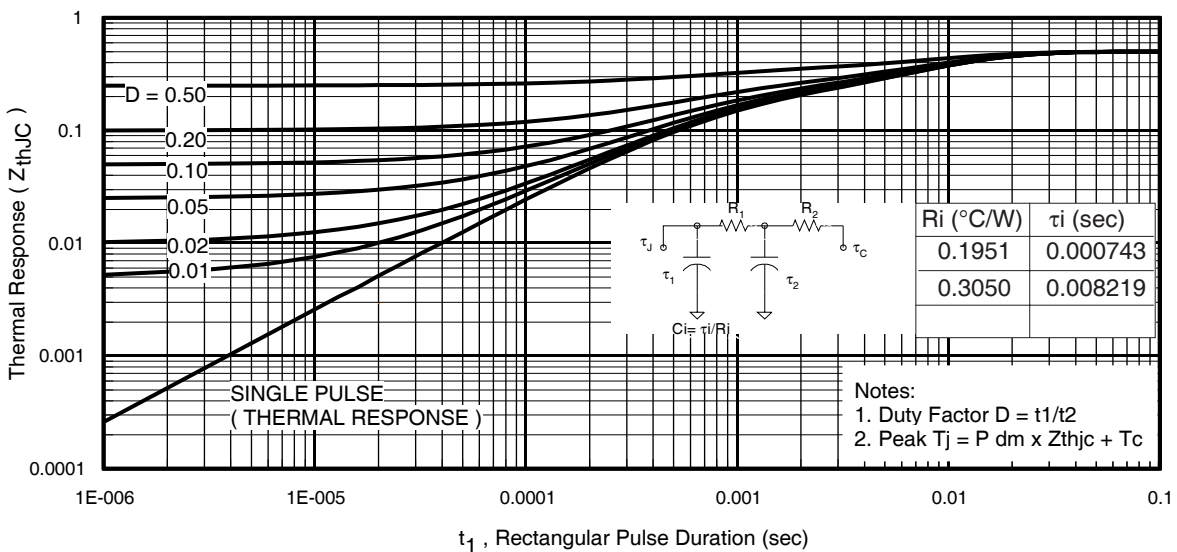
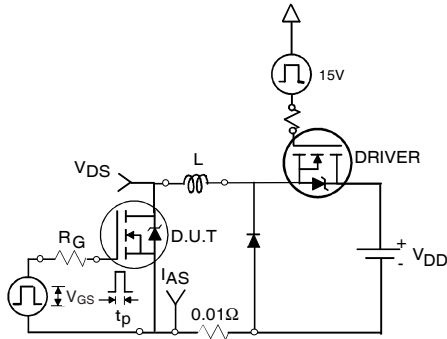

Fig 11. Maximum Effective Transient Thermal Impedance, Junction-to-Case
Fig 12a. Unclamped Inductive Test Circuit
- ① Repetitive rating; pulse width limited by max. junction temperature. (See fig. 11).
- ② Limited by T_{Jmax} , starting $T_J = 25^\circ\text{C}$, $L = 0.049\text{mH}$, $R_G = 25\Omega$, $I_{AS} = 160A$, $V_{GS} = 10V$. Part not recommended for use above this value.
- ③ Pulse width $\leq 1.0\text{ms}$; duty cycle $\leq 2\%$.
- ④ $C_{oss\text{ eff.}}$ is a fixed capacitance that gives the same charging time as C_{oss} while V_{DS} is rising from 0 to 80% V_{DSS} .
- ⑤ Limited by T_{Jmax} , see Fig.12a, 12b, 15, 16 for typical repetitive avalanche performance.
- ⑥ This value determined from sample failure population. 100% tested to this value in production.
- ⑦ This is applied to D²Pak, when mounted on 1" square PCB (FR-4 or G-10 Material). For recommended footprint and soldering techniques refer to application note #AN-994.
- ⑧ R_{θ} is measured at T_J of approximately 90°C .
3. Equation below based on circuit and waveforms shown in Figures 12a, 12b.
$Z_{thJC}(D, t_{av})$ = Transient thermal resistance, see figure 11)